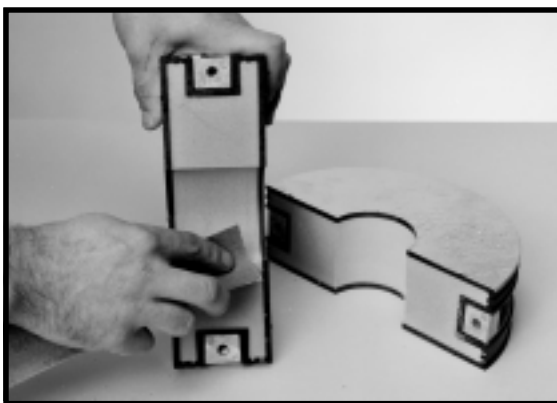

FIGURE 6 - DRESSING CABLE OPENING(S)
- 6.02 With the emery cloth provided, remove any sharp edges from plastic and foam in the area of the cable opening(s). (Figure 6)